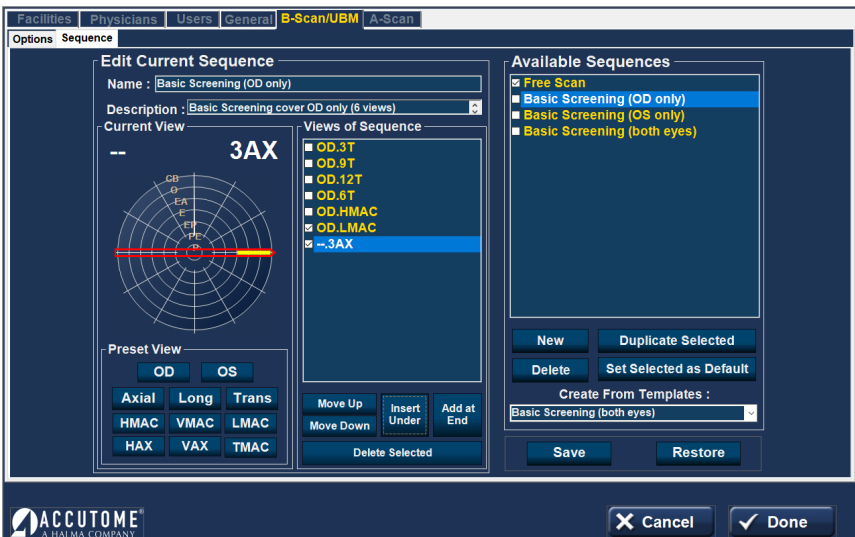

Figure 7.5 - Setup: B-Scan/UBM – Sequence – Change Probe Orientation
- When you arrive at the appropriate position for the probe in the newly added sequence scan, release the position indicator. The new position will be reflected in the label for the new sequence scan as shown in the figure 7.5. The indicator stopped at 3:00, and the label for the scan was changed from OD.Scan to OD.3AX.
A copy of the sequence will be displayed in the list of Available Sequences with “(1)” beside the name, as shown in figure 7.5. You may then change any information for the new sequence, as necessary. If you make more than one copy, the number will increase with each copy.